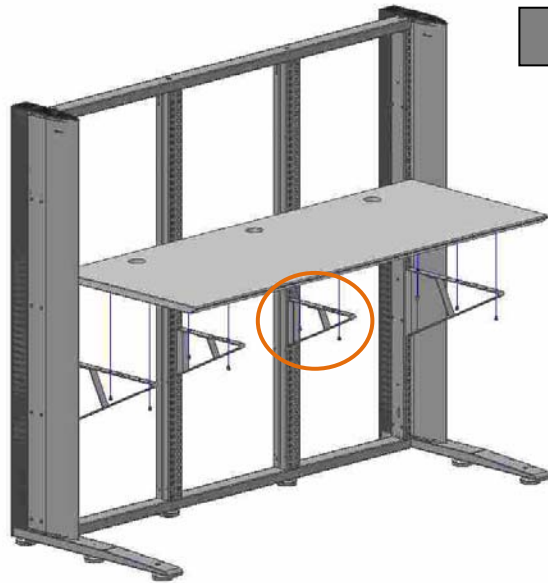

Fig 6
STEP 3 – Place the **table** on the **brackets** and screw them from below with **M6x12 DIN785 Phillips screws** (Fig. 6 and 7).